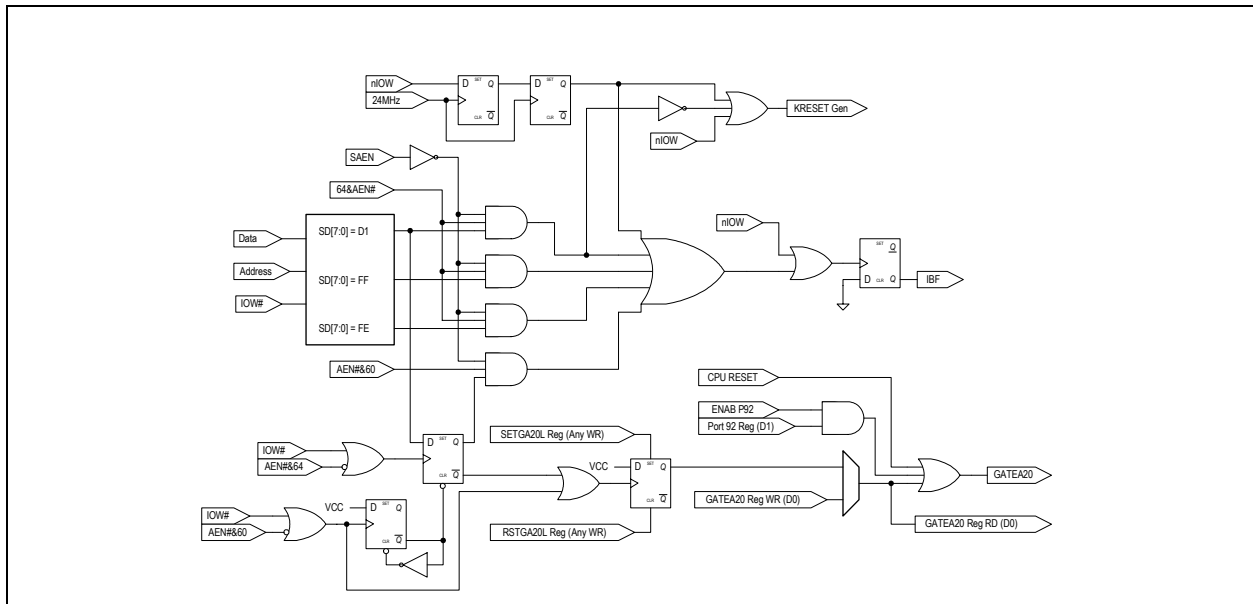

**Figure 10.2 GATEA20 Implementation Diagram**
**Note 10.11** Host Commands (FF, FE, & D1) do not cause IBF. The method of blocking IBF in Figure 10.2 is the nIOW not being asserted when FF, FE, & D1 Host commands are written”.